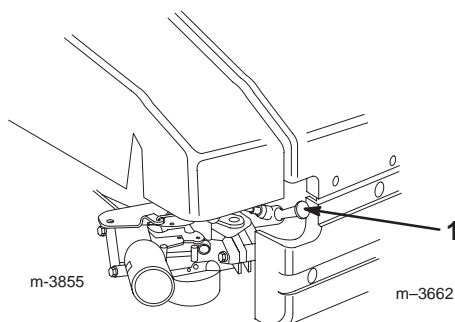

Figure 10
1. Disconnect the wire from the spark plug (Fig. 10).
7. Connect the spark plug wire (Fig. 10).
2. Remove the wire from the spark plug (Fig. 10).
2. Disconnect the wire from the spark plug (Fig. 10).
8. Connect the wire to the spark plug (Fig. 10).